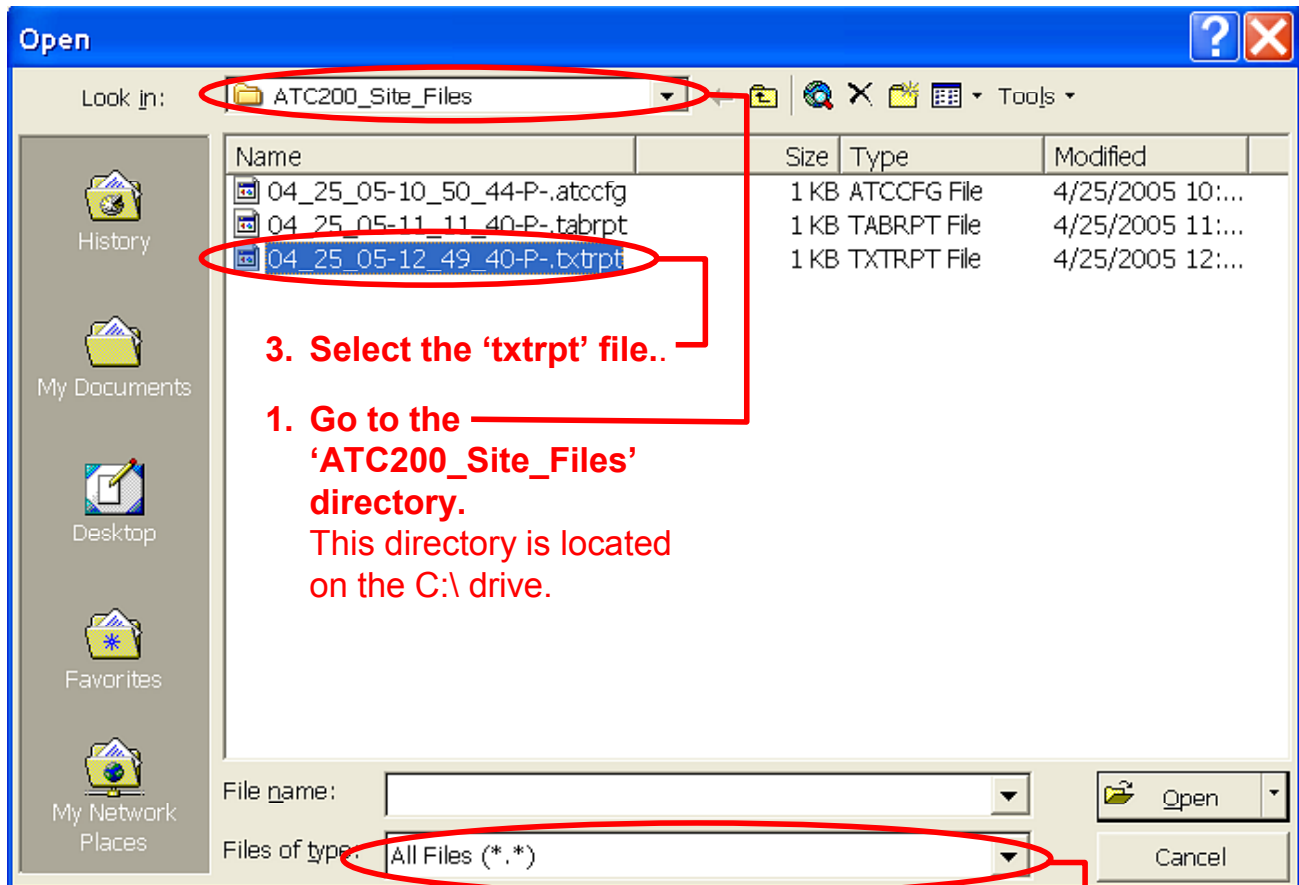

Figure 8-3. Opening the Report in Word.
- To view the saved file, launch Word (or a similar software, such as Notepad or Wordpad) and go to 'File, Open' from the main menu. Change the directory to look in 'C:\ATC200_Site_Files', change the file type to 'All Files', and select the desired 'txtprt' file from the list of files shown. Click 'Open' (Figure 8-3).